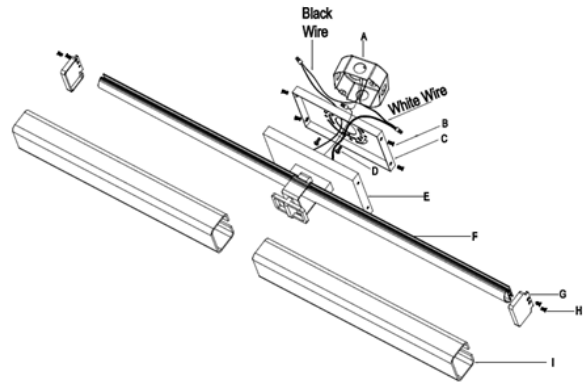

Fig.2
CONNECTING THE WIRES (FIG. 2)
3. At this point, connect the electrical wires as shown in Fig. 2, making sure that all wire connectors(B) are secured. If your outlet has a ground wire (green or bare copper), connect the fixture's ground wire to it. Otherwise, connect the fixture ground wire directly to the mounting plate (C) using the green screw provided. After wires are connected, tuck them carefully inside the junction box.
4. Align the fixture's back plate (E) over the mounting back plate (C) and secure with screws (B).